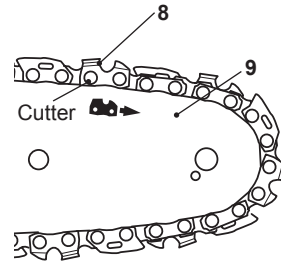

Fig. 2
4. Spread the saw chain (8) out with the cutting edges of the chain pointing in the direction of rotation. Slide the saw chain (8) into the groove around the guide bar (9). Ensure saw chain (8) is installed in correct direction of rotation (Fig. 2).